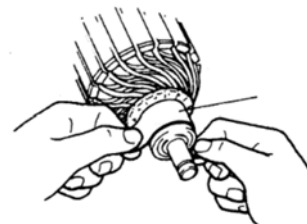

Figure 6.2-3
(1) Inspect the collector for contamination or burning out. A piece of sandpaper or lathe can be used to make rectification appropriately. See Figure 6.2-3.